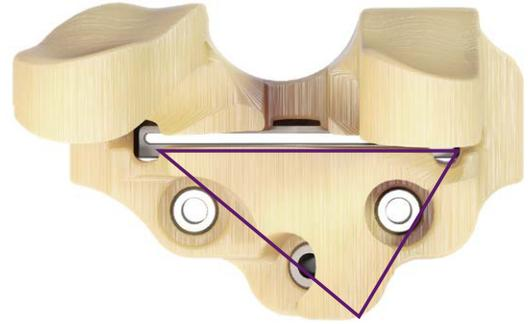

Figure 17
- a. The Tibial Resection Guide's primary reference surface is the anterior/medial aspect of the tibia. This area, roughly triangular in shape, matches the Guide's largest surface contact area located below the saw slot (Figure 17). When positioning the Guide, apply most of the pressure (~75%) against the anterior aspect of the tibia. It may be necessary to remove the thin soft tissue to expose the underlying bone (Figure 18).